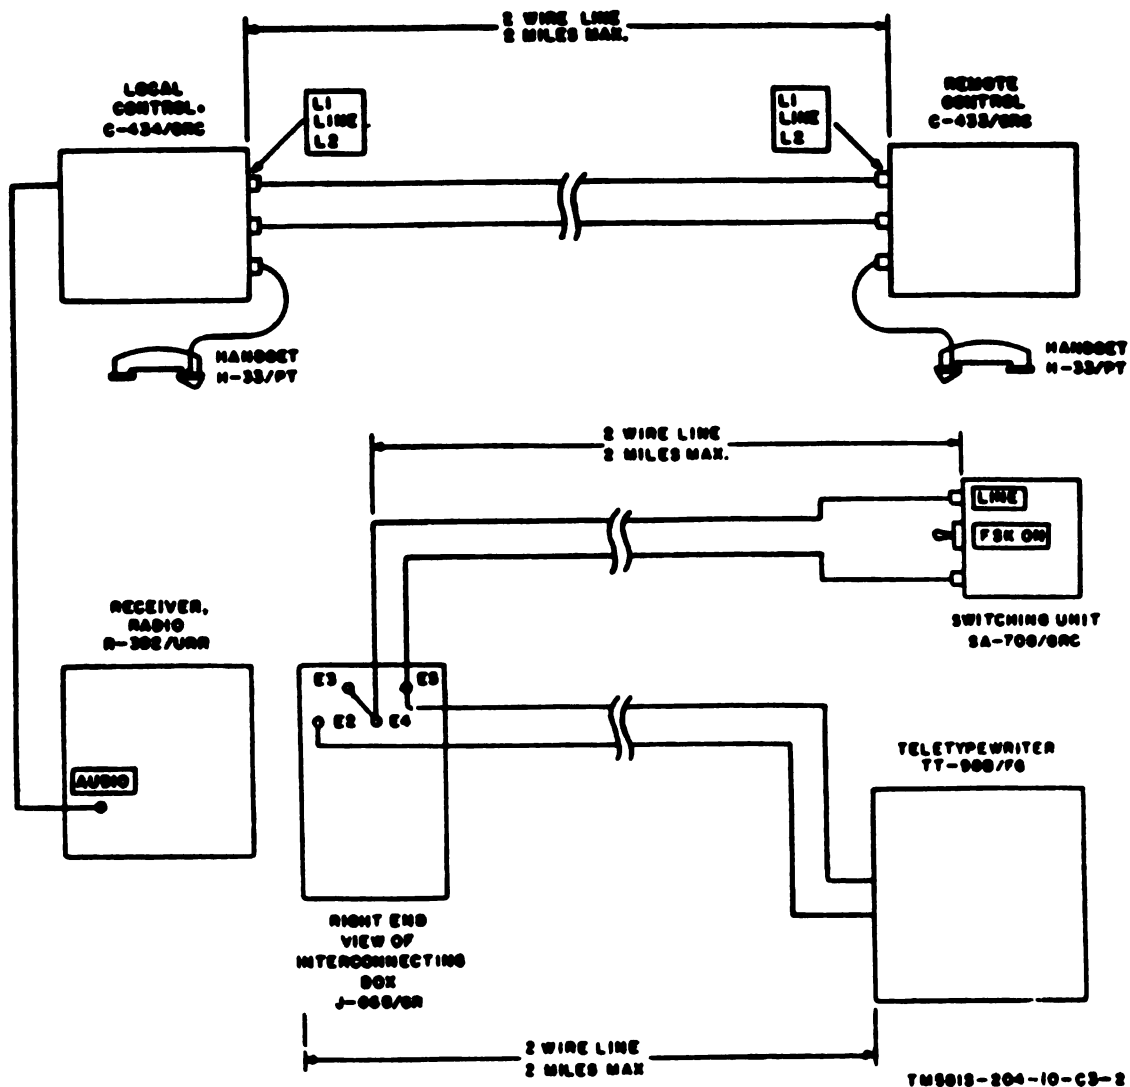

Figure 18. (Added) Connections for remote fsk operation.
b. Fsk Mode (fig. 18).
- (1) Remove the jumper wire connecting terminals E2 and E5 (TTY LINE) on Interconnecting Box J-668/GR. Reconnect the jumper wire between terminals E3 and E4.
- (2) Insert one end of a suitable two-conductor line such as WD-1/TT (not to exceed 2 miles in length) into J-668/GR terminals E2 and E5. At the remote site, connect the other end of the line to a teletypewriter set. Use the binding posts prescribed for two-wire operation.
- (3) Connect one end of another two-conductor line (not to exceed 2 miles in length) to J-668/GR terminals E4 and E5. At the remote site, connect the other end of the line to the LINE binding posts of the SA-708/GRC.
- (4) Install Control Group AN/GRA-6 between local and remote sites as required. This provides a voice and fsk monitoring capability.
- (5) The RE-479/GRC is not used for remote fsk operation.
- (6) The SERVICE SELECTOR switch on the T-195/GRC-19 must be at VOICE/FSK. The SEND-RECEIVE-MARK HOLD switch located on the teletypewriter shelf must be at RECEIVE. At the remote site, the FSK ON switch located on the SA-708/GRC must be in the up (on) position during teletypewriter transmission and in the down (off) position for reception.